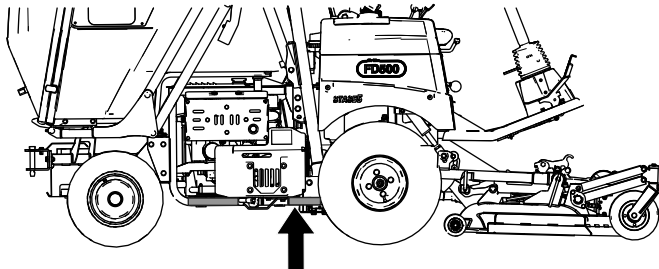
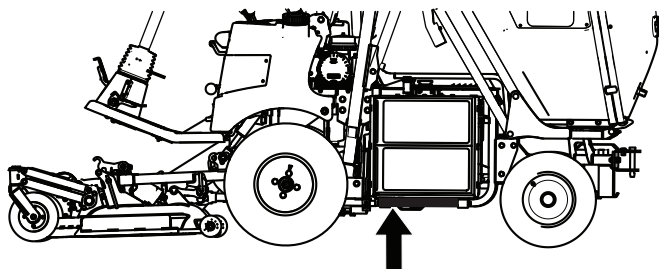

Figure 33
Figure 34
2. Place a jack under the frame tube (Figure 33 and Figure 34), directly under the ROPS tube, or as close as possible.